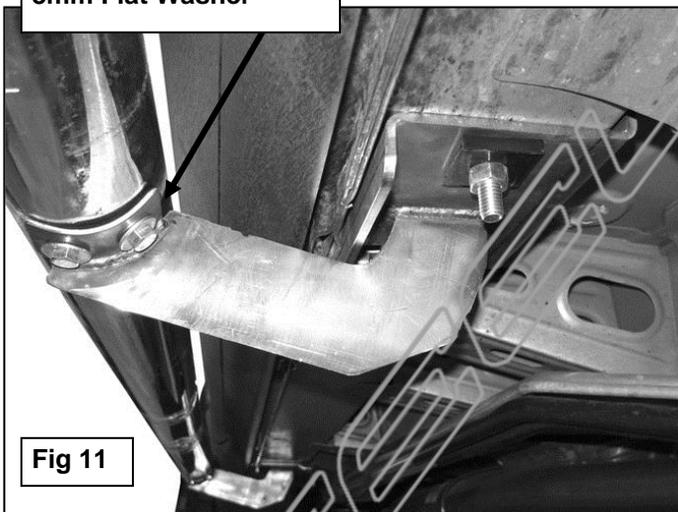

**Fig 10**
- b. **On 2010-11 Vehicles:** Use (1) 12mm Square Washer, (1) 10mm Flat Washer, (1) 10mm Lock Washer and (1) 10mm Hex Nut to secure the Bracket to the 10mm Bolt Plate in center of the floor panel, **(Figure 10)**. Use (1) 12mm Flat Washer, (1) 12mm Lock Washer and (1) 12mm Hex Nut to secure the Bracket to the Bolt Plate in the round hole. Do not tighten hardware at this time.
**(Fig 10) 2010-11 Passenger Side Rear Installation Pictured**